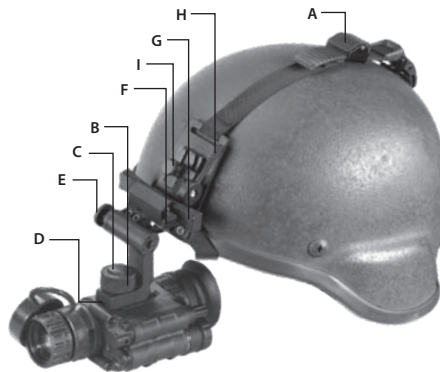

FIGURE 3-3. MOUNTING THE NYX-14 TO A HELMET
Mount the NYX-14 to a helmet as follows (refer to Figure 3-3):
2. Adjust and tighten the strap (A).
3. Loosen the screw (B). With the button (C) pushed down, insert the NYX-14 rail into the guide (D) of the helmet mount bracket. Tighten the screw (B).
5. Push the button (F) and move the unit along the slide-rail (G) until the most comfortable position is reached.
6. Adjust the mount for comfortable using. Loosen the screw (B) and move the unit along the guide (D) for eye relief adjustment. Turn the lever (H) and move the unit along vertical slide-rail until the most comfortable vertical position is reached.
7. To remove the NYX-14 and turn it around, push the button down (E) and lift the unit up until it reaches the top position. Once it reaches this position, the unit will turn off automatically.
8. Push the same button (E) to lower the NYX-14 into the proper viewing position. Turn the unit on to proceed with your mission.
In Figure 3-3, the NYX-14 is shown in the correct position for the right eye. To readjust the NYX-14 for the left eye, reverse its positioning and reinstall it on the helmet mount bracket (see Figure 3-3). Use the second unit rail located on the opposite side of the unit. Push the button (F) and move the unit along the slide-rail (G) until the most comfortable position is reached.